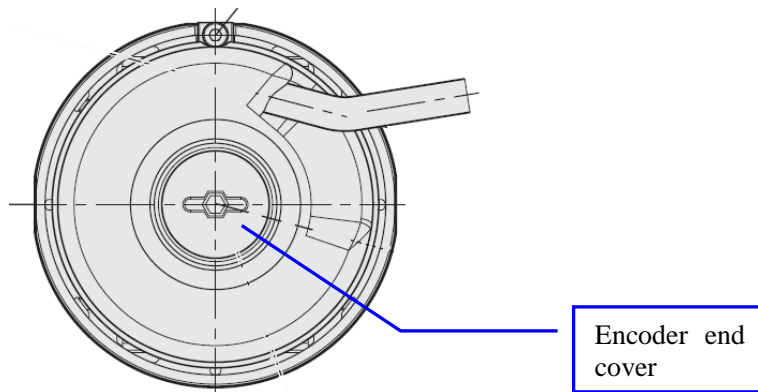

Figure 11: Remove Encoder end cover
2. Remove the encoder end cover of encoder using inner hex wrench 4mm. See Figure 11.